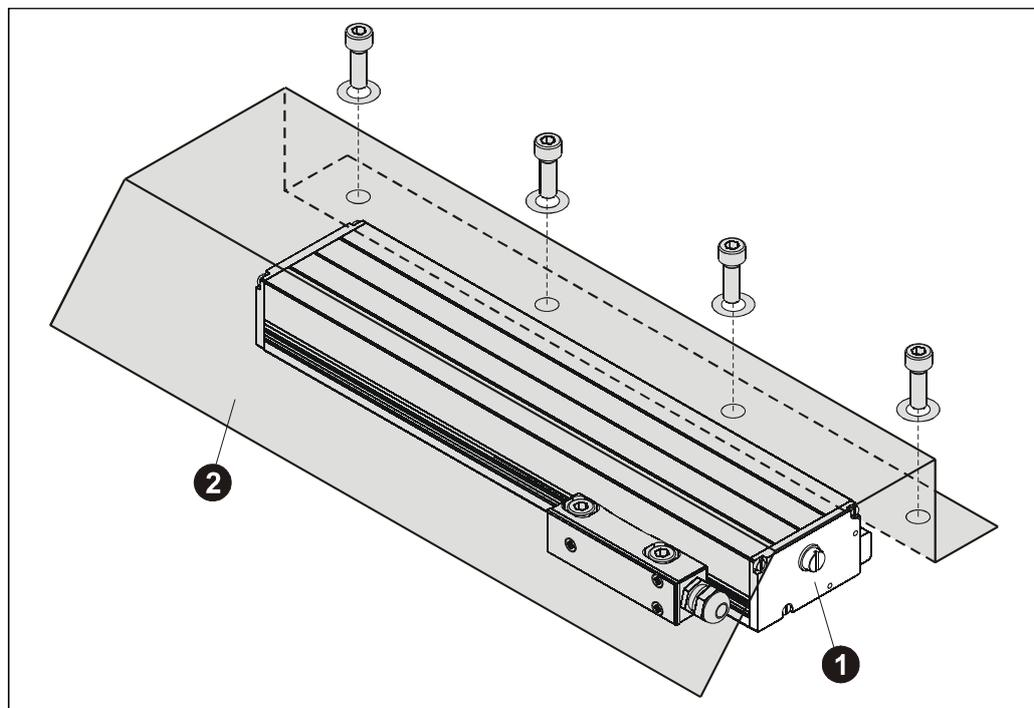

Figure 3: Mounting example protective cover
- If lateral splashing water, shavings, hot metal particles and similar can not be excluded, an additional measuring axle protection must be used, see Figure 3.